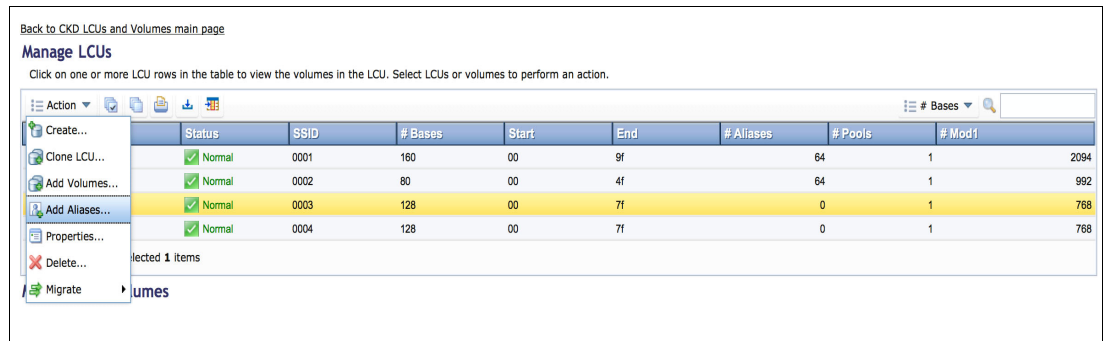

Figure 6-26 Manage LCUs panel
2. We select the LCU for which PAVs are needed. Click **Action** → **Add Alias**, as shown in Figure 6-26.